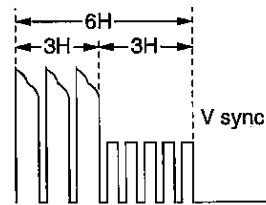

Figure 5.1.1
- 4) Select the address 30h, set the sync slope of oscilloscope to (-), adjust the data with "REW" and "FF" so that the interval between the trigger point and the V sync signal is set to 6H, and fix the data with the "PLAY" button. (See Figure 5.1.1.)